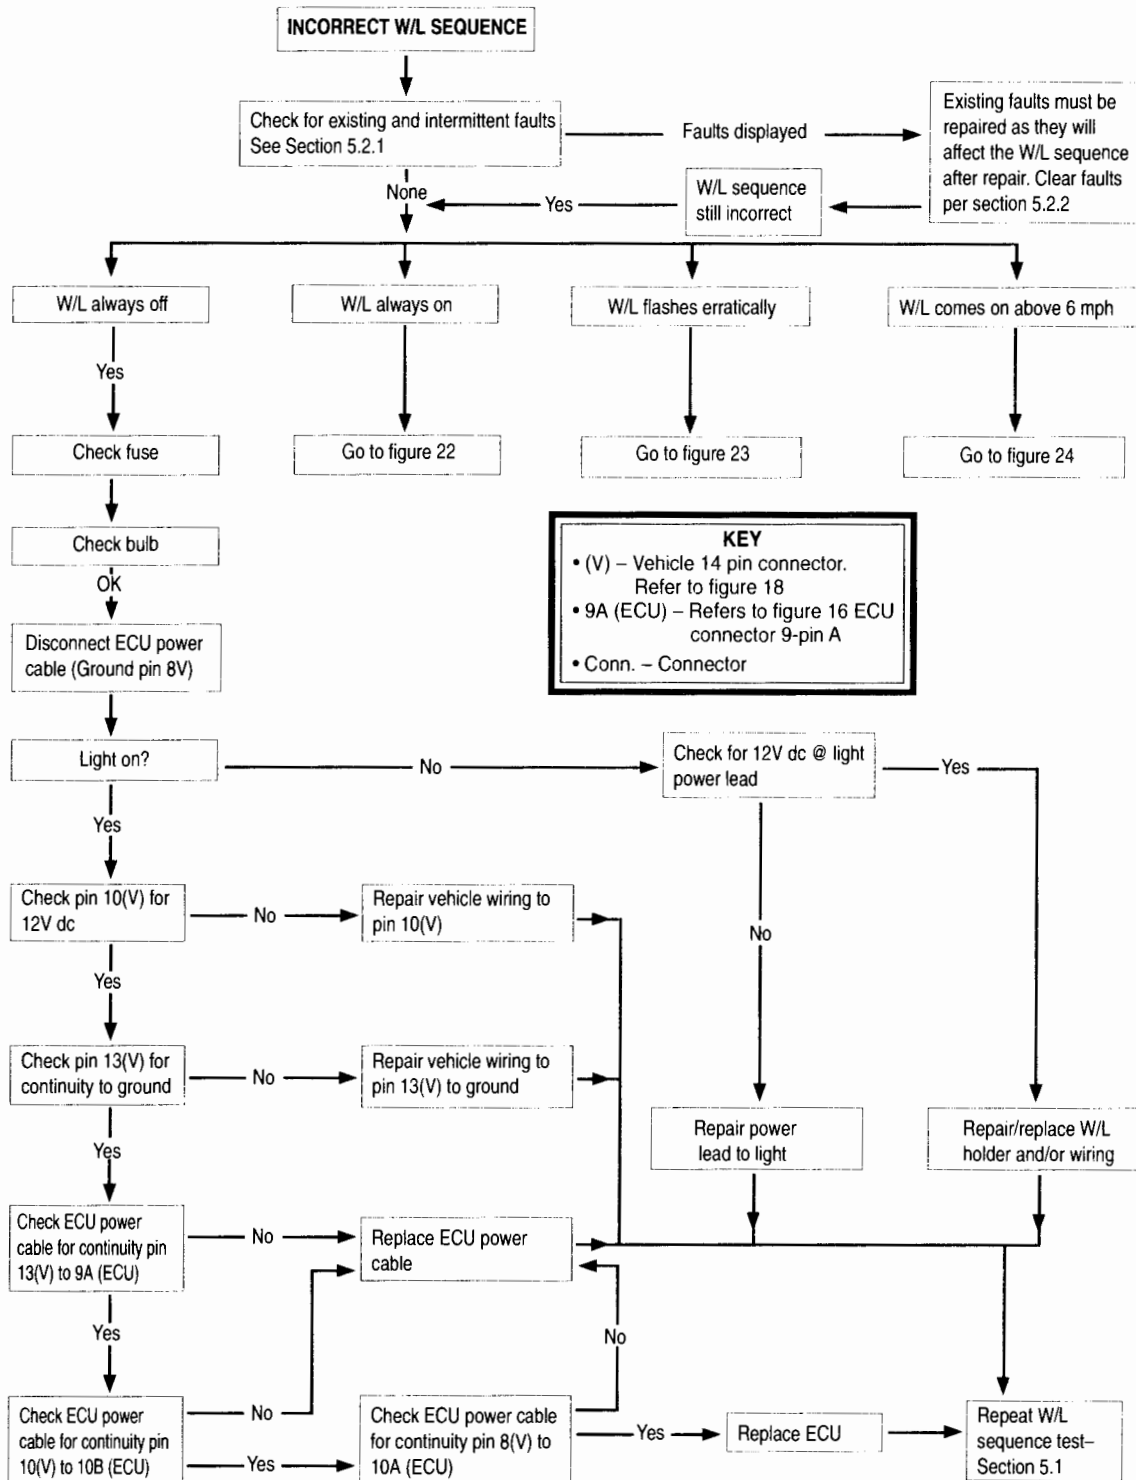

FIG. 21
EXAMPLE: Figure 21 in the L30022 ABS Manual refers to 14 pin connector ,pin 10. From the above tabulation we see that this is the ignition switch positive wire and is terminal "F" for the 21 pin Front connector.
- If this does not happen refer to figure 21 for troubleshooting procedures.